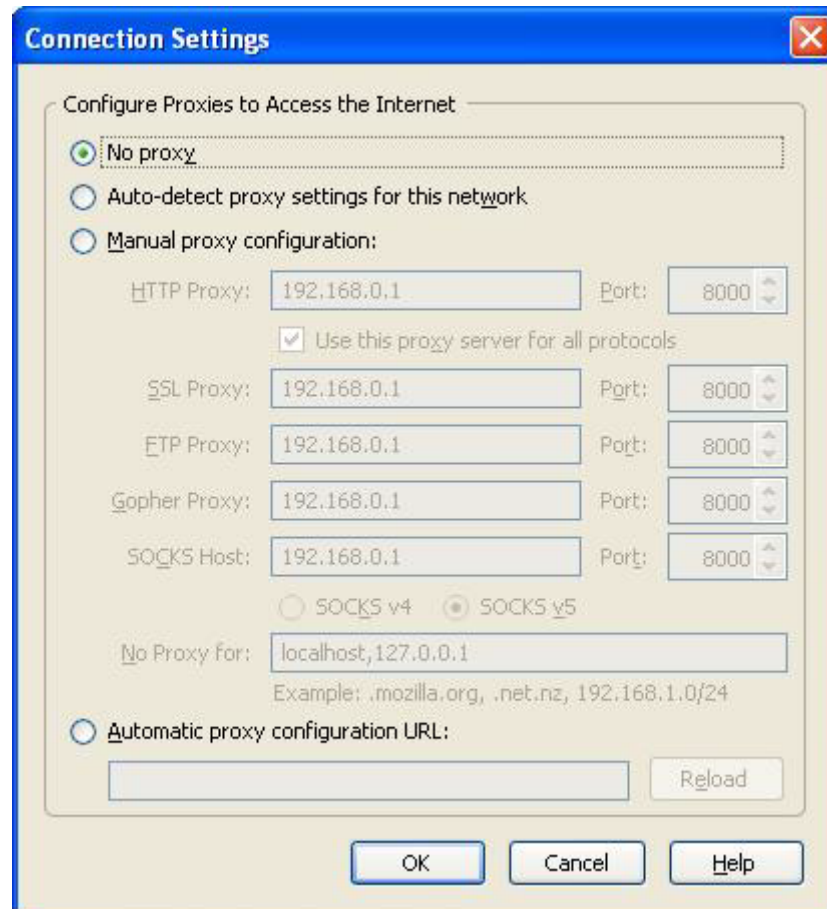

Figure A-3 · Selecting No Proxy Option
6. Select the No proxy option to disable the proxy server (Figure A-3).